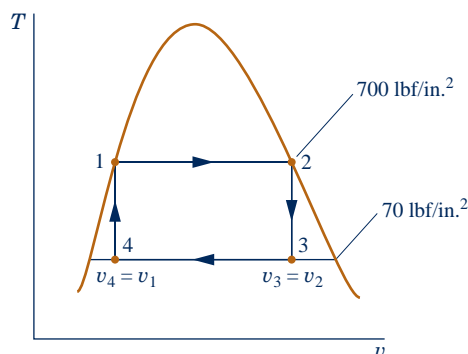

Fig. P3.78
3.78 One lb of water contained in a piston–cylinder assembly undergoes the power cycle shown in Fig. P3.78. For each of the four processes, evaluate the work and heat transfer, each in Btu. For the overall cycle, evaluate the thermal efficiency.